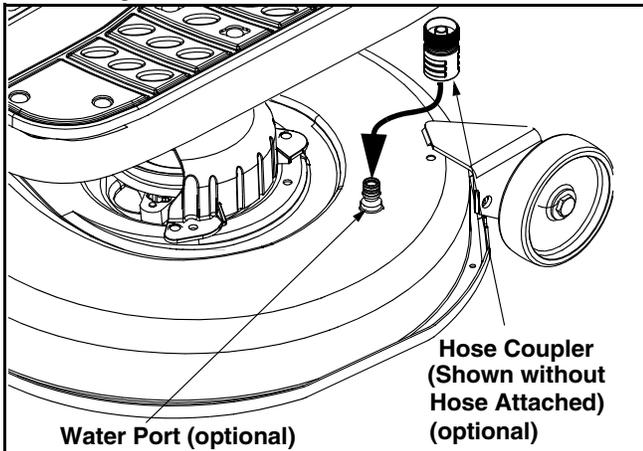

Figure 16
4. Attach the hose coupler to the water port on your decks surface. See Figure 16.